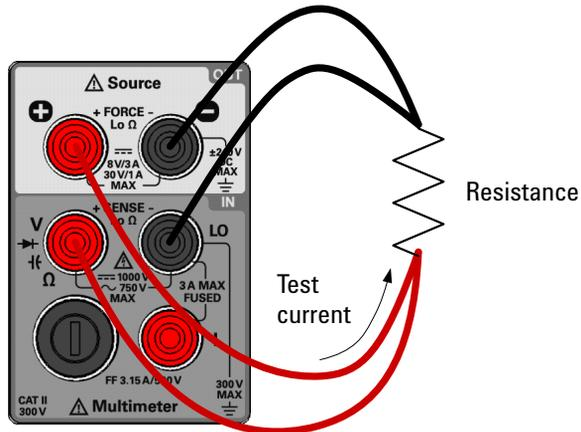

Figure 2-4 Terminal connections for 4-wire resistance measurements
- 2 Connect the first red and black test leads to output terminals **+** (FORCE +) and **-** (FORCE -) respectively as shown in Figure 2-4.
- 3 Connect the second red and black test leads to input terminals **Ω** (SENSE +) and **L0** (SENSE -) respectively as shown in Figure 2-4.